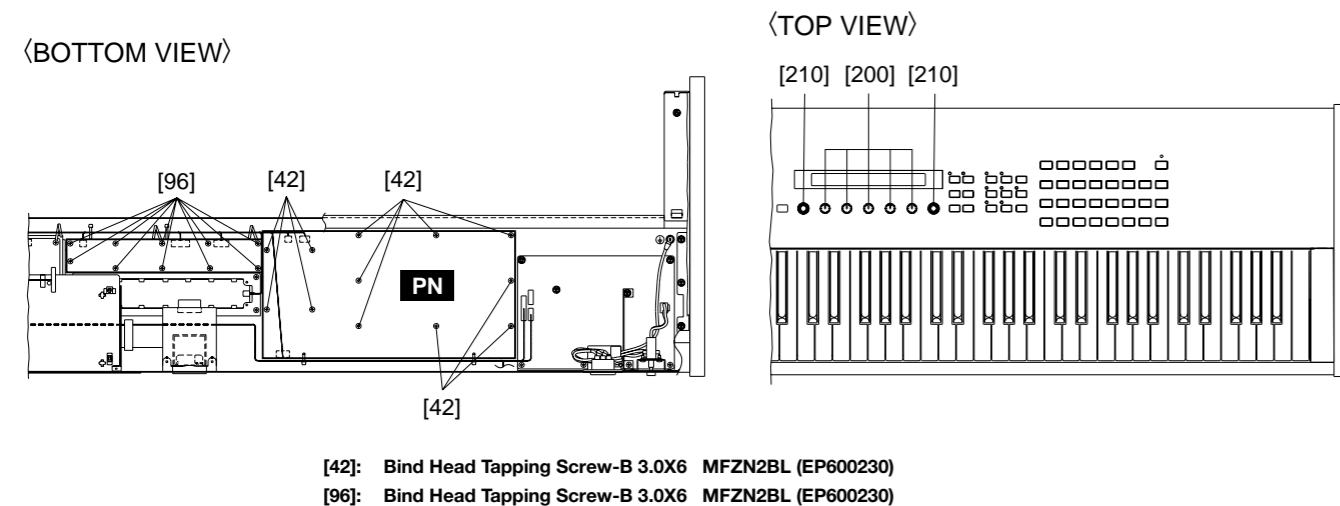

Fig.2
- 2-2 Remove the twelve (12) screws marked [42]. The PN circuit board can then be removed. (Fig. 2)
- 3-2 Remove the five (5) knobs marked [200] and the two (2) knobs marked [210] from the panel surface.
- 3-3 Remove the ten (10) screws marked [96]. The RV circuit board can then be removed. (Fig. 2)